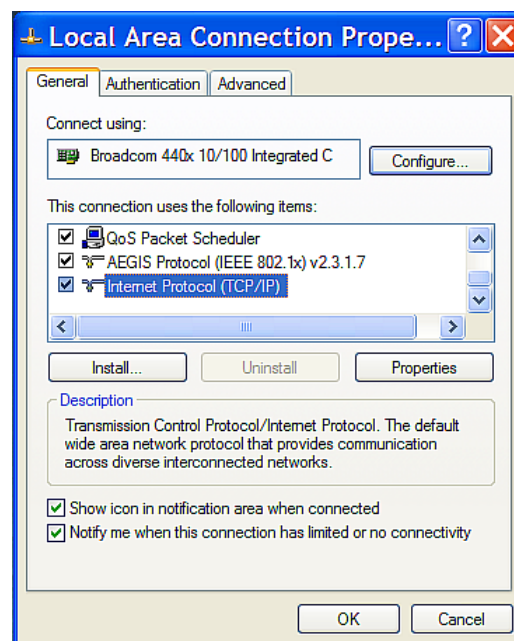

Figure 2.3d- Local Area Connection
3. Right click on the icon labeled Local Area Connection. In the menu that follows, select the option at the bottom of the menu labeled Properties. The Local Area Connection Properties window will appear (Figure 2.3d).